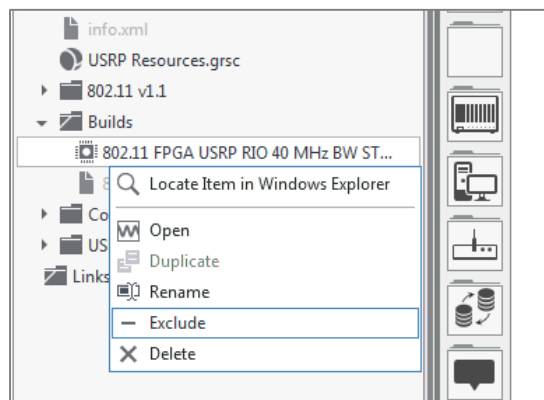

Figure 60: Option to Exclude Bitfile
15. **(Recommended)** Once the bitfile is finished building, exclude it from the project as shown in Figure 60 and include it again. This will ensure that the latest changes are actually applied.